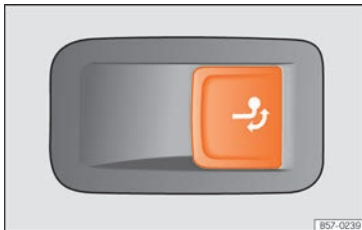

Fig. 297 Right side of the boot: button to unlock the tow hitch.
- Pull the » » » **Fig. 297** button briefly. The tow hitch unlocks electrically and automatically turns outwards. The control lamp in the button will flash » » » **Fig. 297**.
- Pull the » » » **Fig. 297** button briefly. The tow hitch unlocks electrically.
- Turn the tow hitch under the bumper with your hand until you feel and see that it engages and the control lamp on the » » » **Fig. 297** button stays on.
- If the warning light of the button » » » **Fig. 297** is *flashing*, this means that the tow hitch has not been attached properly or is damaged » » » .
- Never press the »» Fig. 297 button when there is a trailer hooked to the vehicle or when a carrier system or other accessories are mounted on the tow hitch.